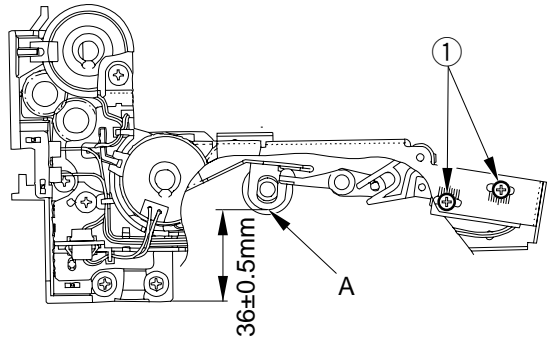

Figure 5-846
As shown in Figure 5-846, adjust the position of the solenoid so that the distance from the bottom of the pick-up assembly and the section A of the roller arm is 36 ± 0.5 mm. (Use two screws ①.)